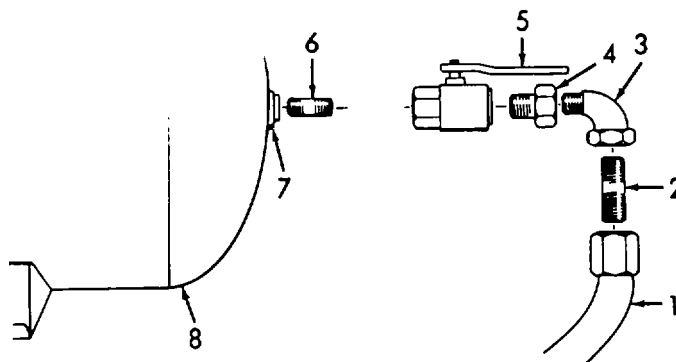

Figure 3-37. Air Valve, Removal.
a. *Removal.* (Refer to Figure 3-37).